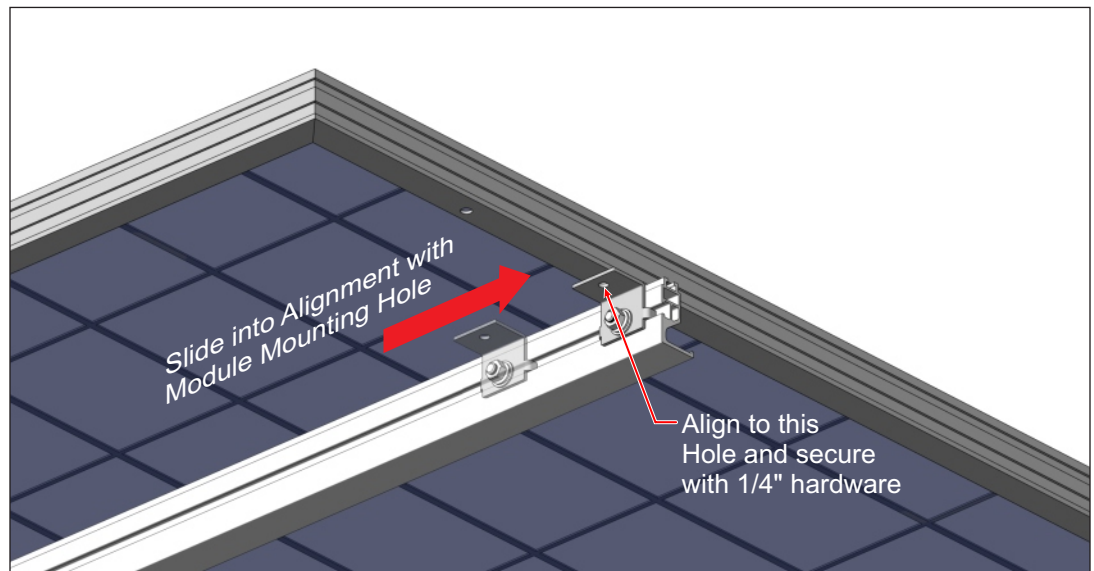

Figure 9-4: Aligning the Single Hole Slide Plate with PV Module Mounting Hole
- B. Locate the Single Hole Slide Plate, loosen the hardware enough so that the Slide Plate will move, and slide its mounting holes into alignment with the just-installed-module. Secure the Module with 1/4" x 3/4" bolts and hardware. Finger-tighten for now. (See Figures 9-4 & 9-5)